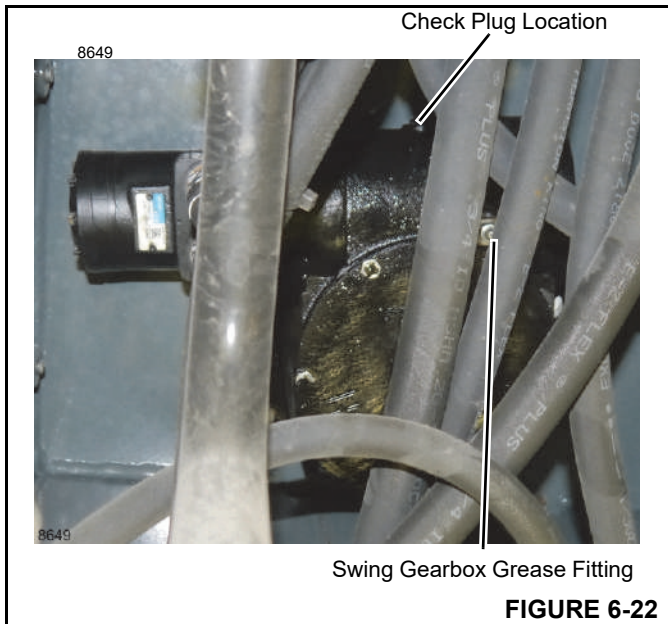

FIGURE 6-22
2. Clean the grease fitting and check plug (Figure 6-22).